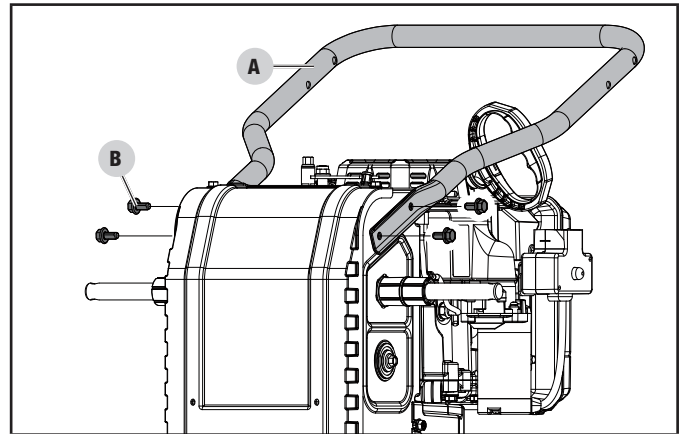

Figure 2
1. Lay the upper handle and control panel toward the bottom of the snowblower to align the cables and wire harness. Lay the discharge chute toward the bottom of the snowblower, past the upper control panel to route the chute deflector cable over the handles. Route the left side auger cable through the lower handle to keep the cable away from the left wheel. Attach the lower handle (A) onto the unit body with 4 bolts (B), using a 13 mm wrench (Fig. 2). Torque until snug. Do not overtighten.